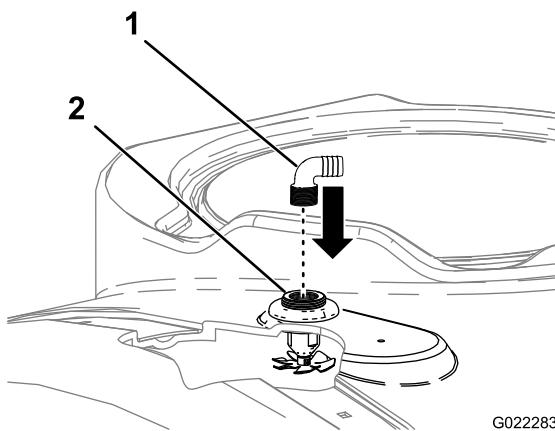

Figure 7
4. Install the 2 rinse nozzle hosebars into the threaded openings of the rinse nozzle bulkheads (Figure 7).